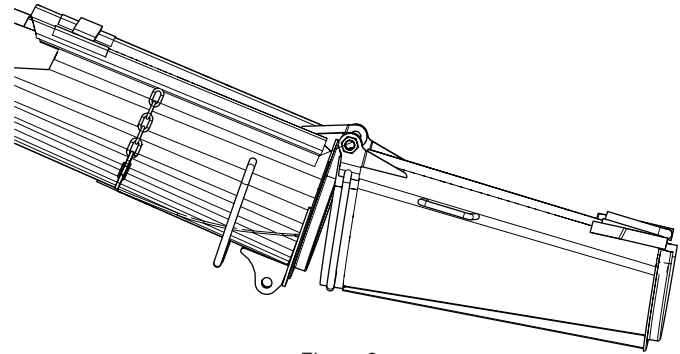

Figure 8
7. The tension is correct when the chute will hold its position in the three positions illustrated in Figures 8, 9, 10.
Figure 8 shows a small 4-inch (102 mm) crack in the exterior chopper (cosmetic) surface. This crack can occur during chipping operations, or when small pieces of built-up concrete break free and tumble within the drum. No structural damage has occurred.